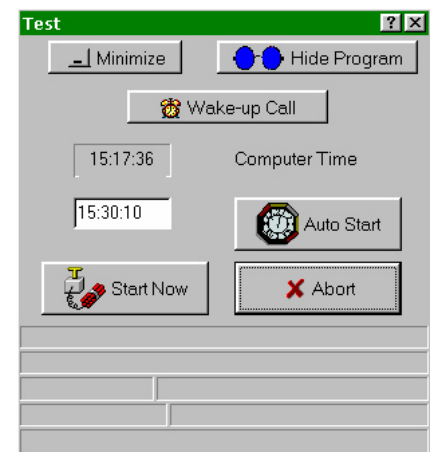

Figure 20 Example #1 Test window
- 8) Finally, click the Generate Test button to bring up the Test window shown in Figure 20 in Step 3.